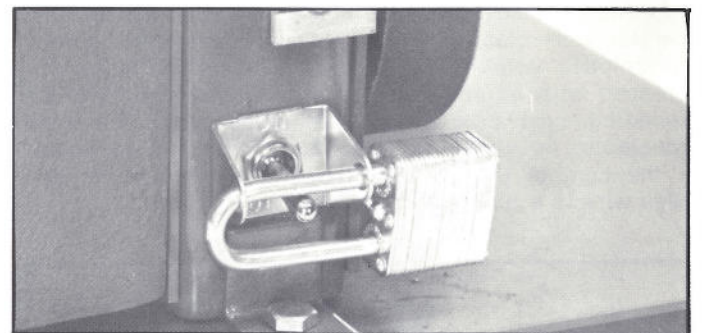

Fig. 9
4. IMPORTANT: We suggest that when the machine is not in use, the switch be locked in the "OFF" position using a padlock, as shown in Fig. 9, Catalog No. 49-031 Padlock is available as an accessory.